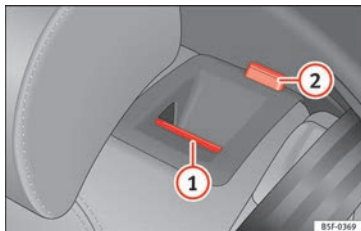

Fig. 151 On the rear seat backrest: release catch (1); red mark (2).
- Push the unlock button » Fig. 151 (1) forwards and at the same time lift the backrest.
- The rear seat backrest is not engaged when the red marking of the button (2) is visible.
The rear seat backrest is not engaged when the red marking of the button » Fig. 151 (2) is visible.
- Lift the backrest and press it firmly into the lock until it engages » Fig. 151 (2).
- It should not be possible to see the red mark of the unlock button (2).